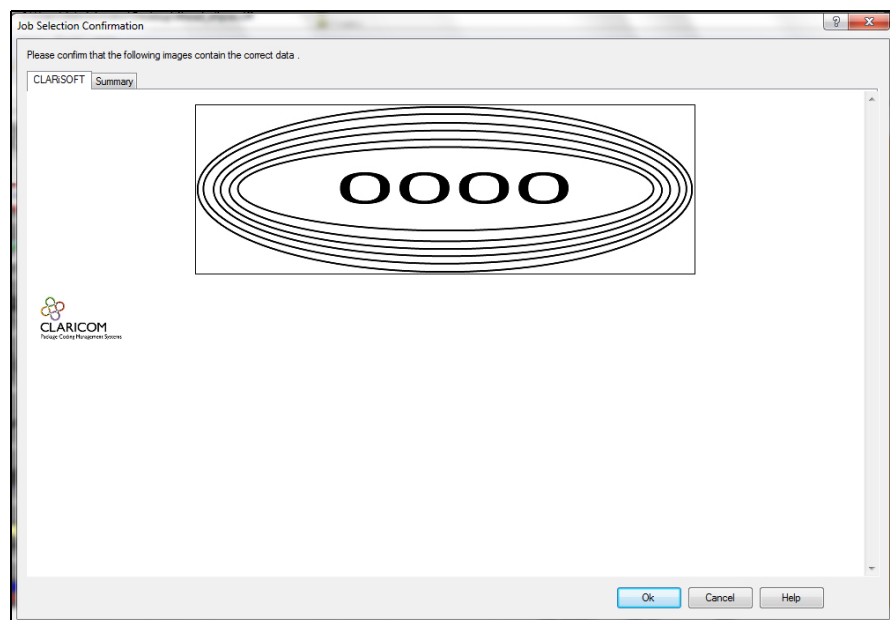

Figure 6-14: Confirmation Window
- 8 The confirmation window appears (see Figure 6-14).